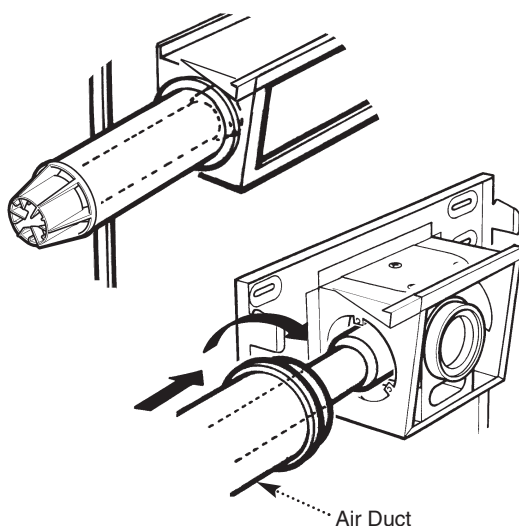

Fig. 56
5. Fit the air duct over the flue duct and draw towards the air box on the back plate. Engage the bayonet slots of the air duct over the location lugs of the back plate opening and press and turn clockwise to secure the air duct to the air box (Fig. 56).